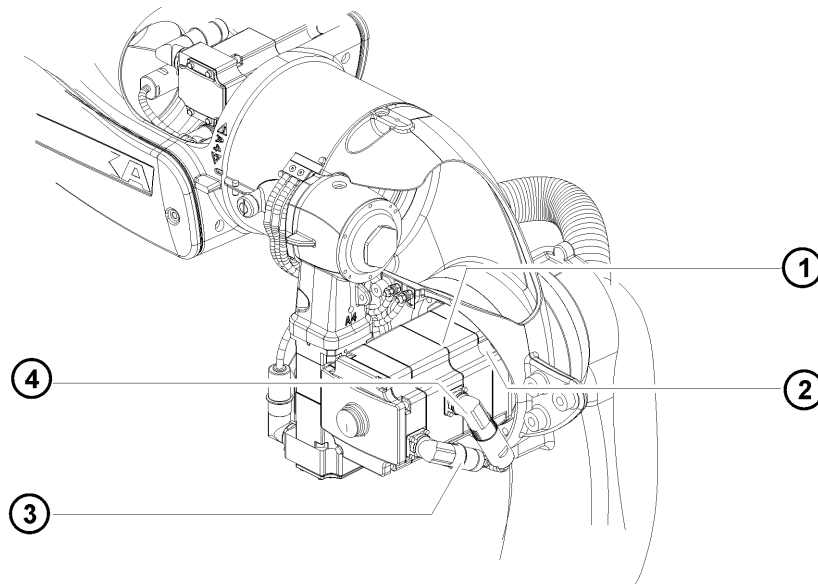

Fig. 11-5: Removing motor A3
1. Release and unplug connectors XM3 (>>> Fig. 11-5) and XP3 from motor A3.